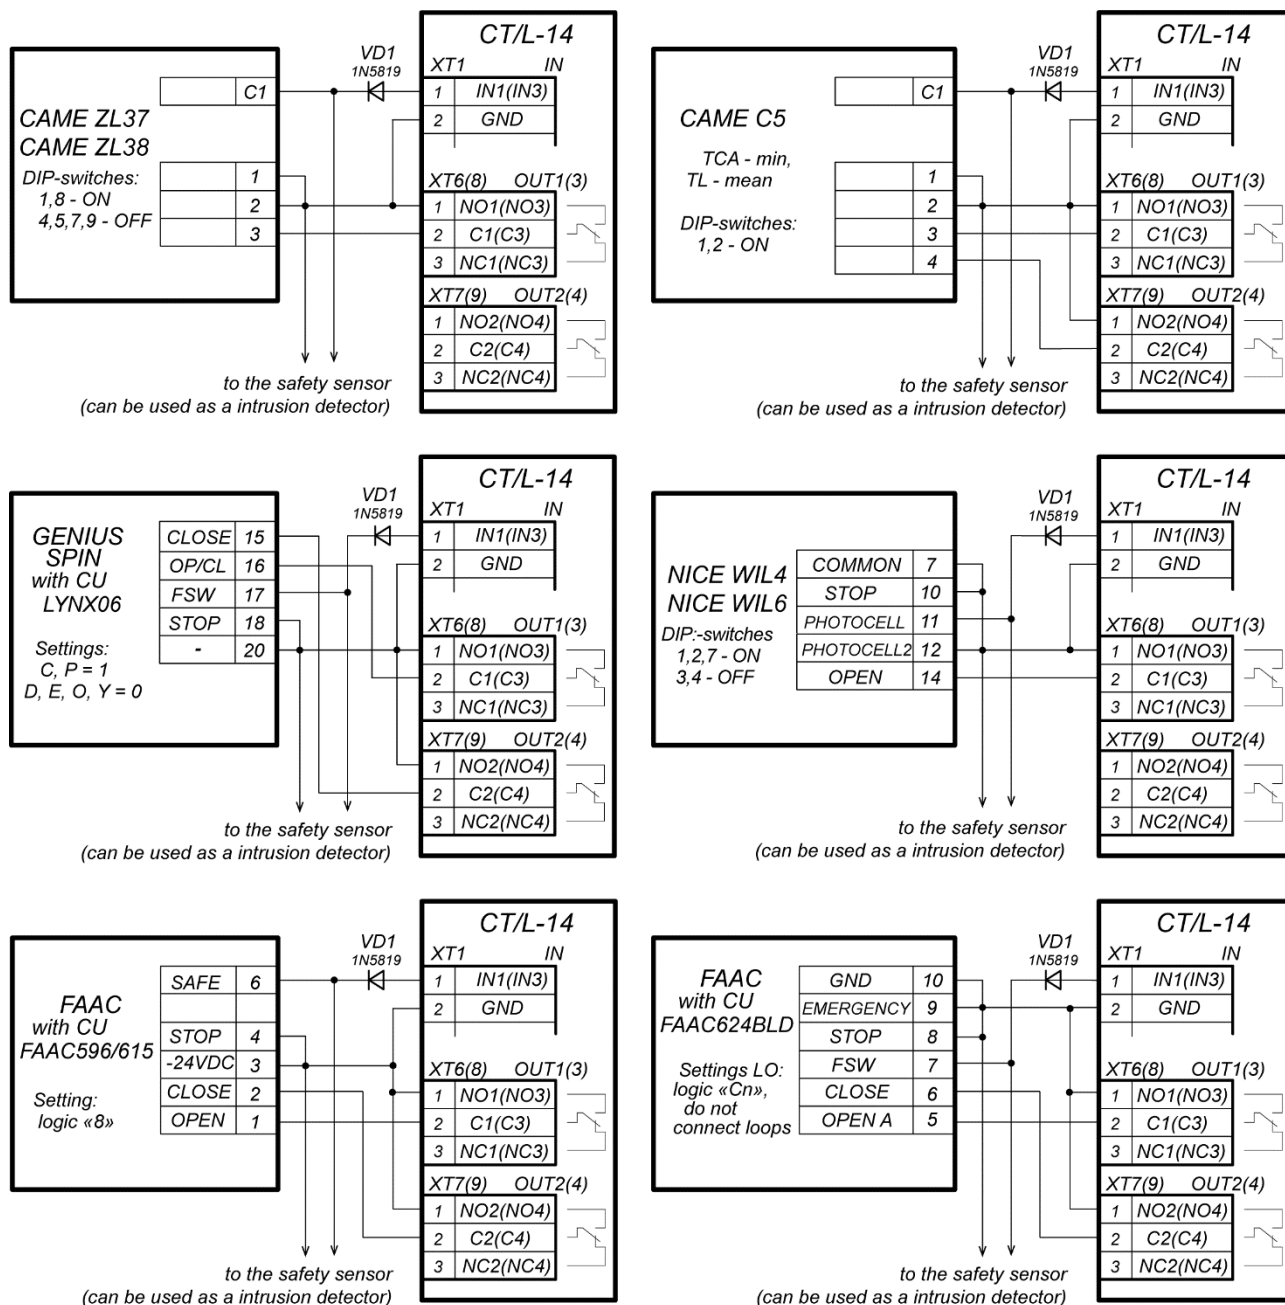

Figure 8. Connection layouts of boom barriers to the controller of vehicle checkpoint
2. General connection layouts of vehicle checkpoint OD are given in Fig. 8.